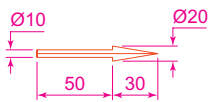

Fig. 14.14 Third example – a 3D Polar Array – the 3D model to be arrayed
1. Working on a layer of colour **red**, construct a solid of revolution in the form of an arrow to the dimensions as shown in Fig. 14.14.